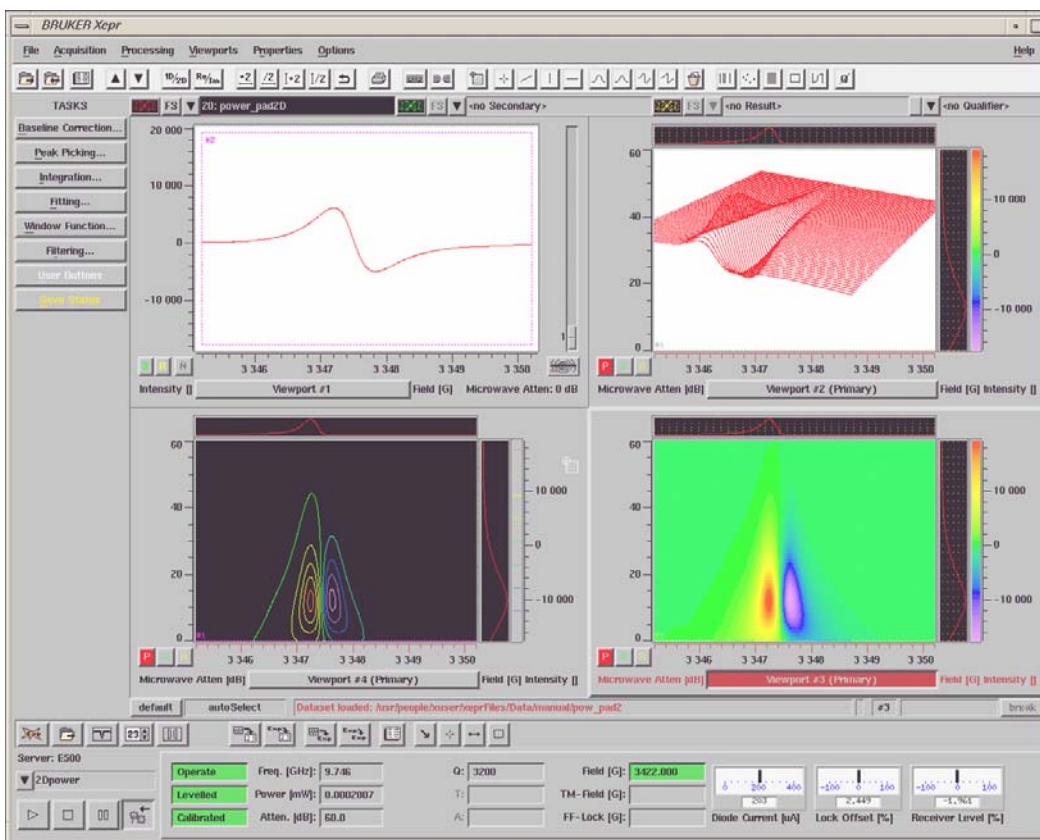

Figure 5-54 Displaying a 2D dataset in various styles.
12. **Display a 2D dataset in different styles at the same time.** You can display the same dataset in different styles at the same time. Just create as many viewports as you need. Activate each viewport and set the display type you want for that viewport. (See Figure 5-54.)